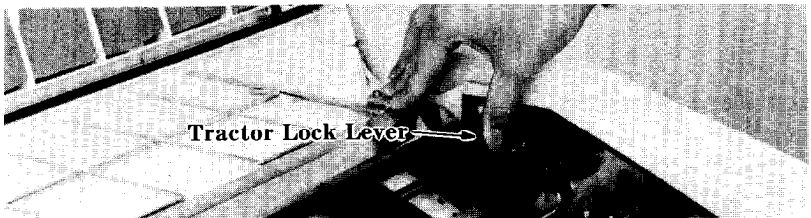

Fig. 11
4. Push the tractor into its original position (until it clicks). If the tractor lock levers, located at either side of the tractor shaft, are pushed up as shown in Fig. 11, the tractor can be moved horizontally to adjust it to match the width of the form being used.
3. Move the tractor lock lever upward. (Fig. 11)